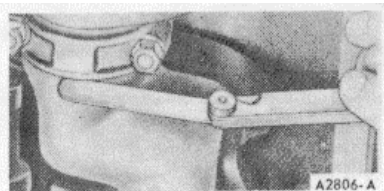

FIG 53 Typical Connecting Rod Side Clearance
8. After the piston and connecting rod assemblies have been installed, check the connecting rod side clearance on each crankshaft journal (Figure 53).